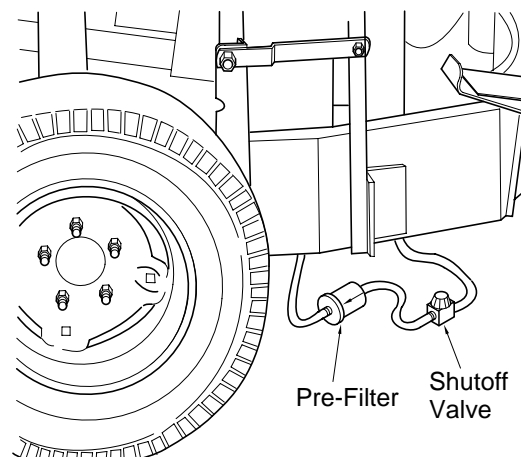

Figure 7-4 Fuel Pre-Filter and Shut-Off Valve
(Figure 7-4) should be replaced after every 500 hours of operation or annually, whichever occurs first.
1. Reach into the frame opening, indicated in Figure 7-4, and pull the fuel shut-off valve and pre-filter from their stored position in the frame.
3. Install a new pre-filter. Be sure it is installed in the proper direction as shown in Figure 7-4. Secure to the fuel hose using the two clamps.